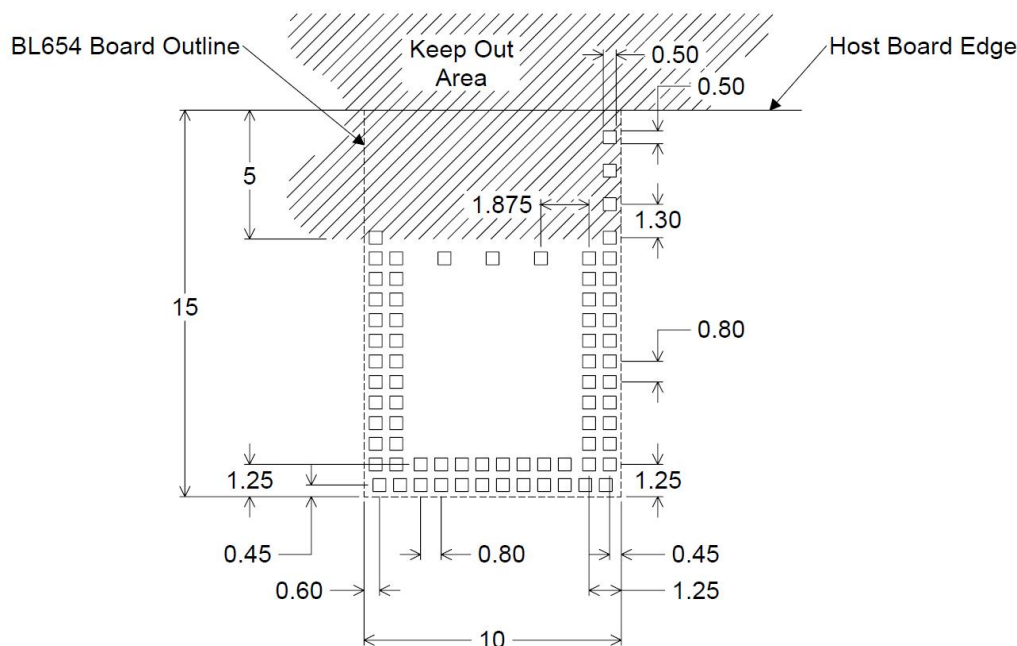

Figure 10: Land pattern and Keep-out for the 451-00001
- Note 3** BL654 development board has the 451-00001 placed on the edge of the PCB board (and not in corner) for that the Antenna keep out area is extended down to the corner of the development board, see section PCB Layout on Host PCB for the 451-00001, Figure 10. This was used for module development and antenna performance evaluation.